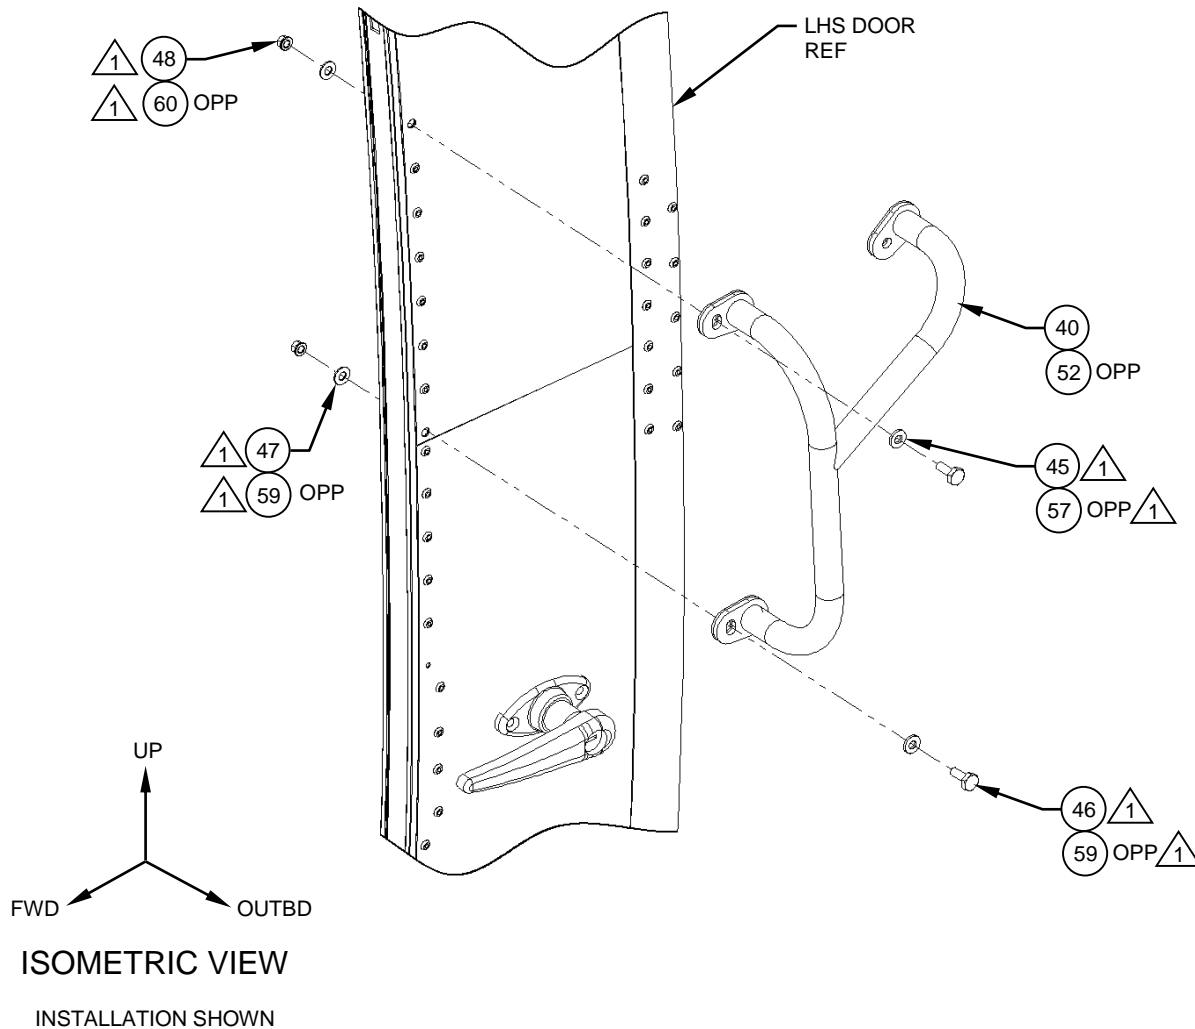

Figure 21
3. Temporarily install the Handle, Assy (Item 40, 52 OPP) using the supplied hardware in the holes that were drilled out. Use this to scribe a center mark for the third foot. Transfer the location of the third hole through the existing hole in the third foot. Reference Figure 21.